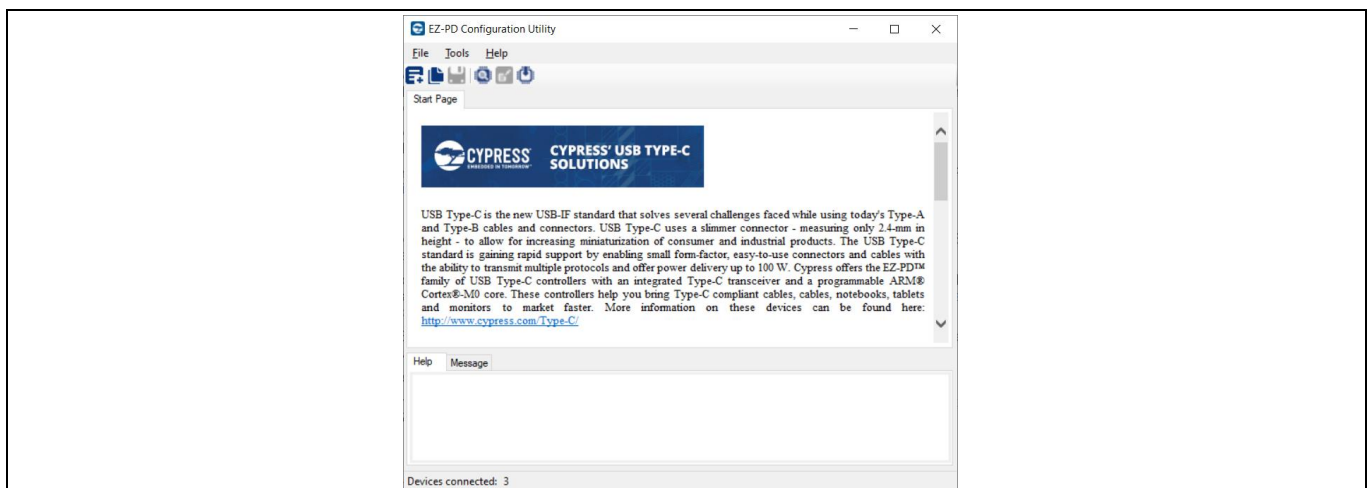

Figure 14 Launch the EZ-PD™ configuration utility on PC
5. Launch the EZ-PD™ configuration utility as shown in **Figure 14**. After installation, the configuration utility is available on the start menu at: